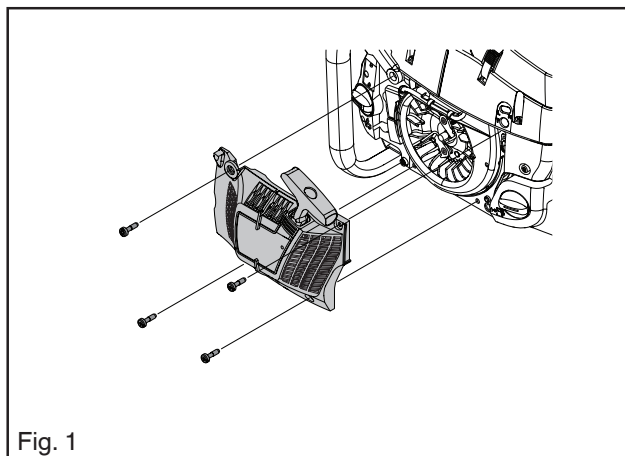

Fig. 1
1. Fit the throttle cable and lever. Fit the throttle lever with pivot (B). See fig. 1 and 4.
4. Fit the throttle lock pivot (A) with the help of a driver. See fig. 1.
1. Remove the four bolts holding the starter to the crankcase and remove the starter. See fig. 1.